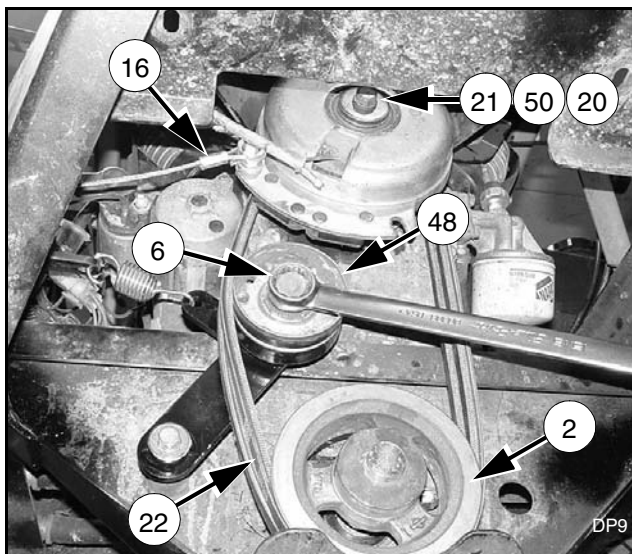
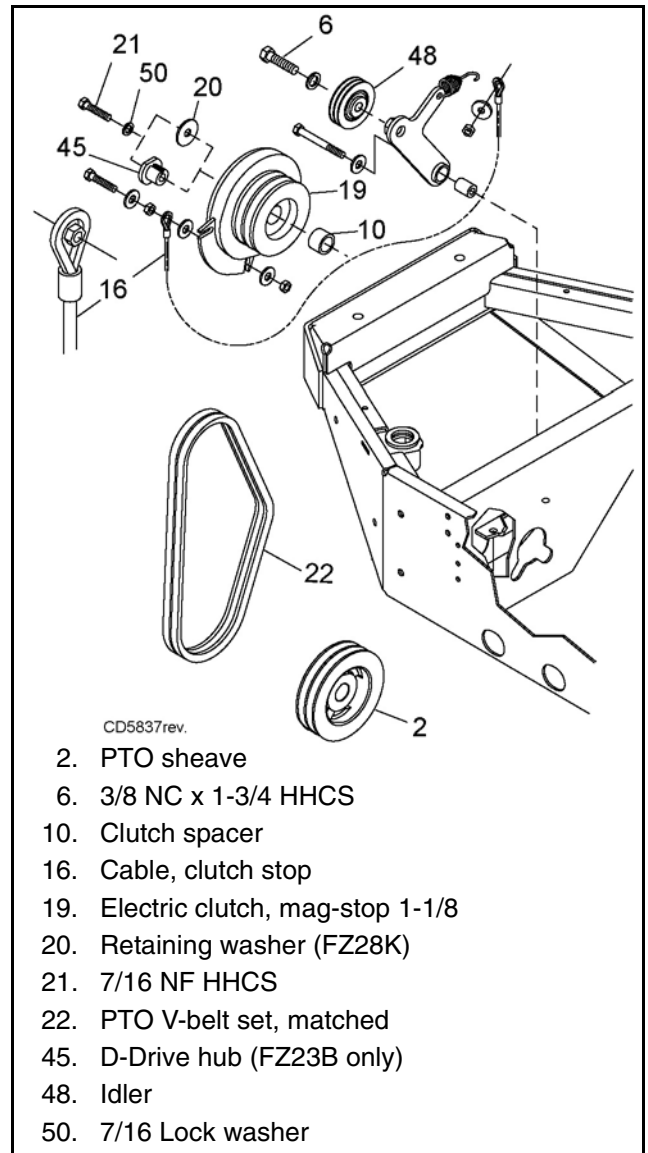

Figure 12. Clutch and Sheave Assembly
Figure 13. Clutch Assembly
Refer to Figure 12 & Figure 13.
NOTE: Photo in Figure 12 was taken from underneath the power unit for clarification. All work can be performed from above.
1. Install PTO V-belts (22) over PTO sheave (2) and clutch (19).
2. Attach clutch cable (16) to clutch (19) using hardware previously removed. Make sure nut is in side of loop of cable and between washers. Cable must pivot freely, (see Figure 13).